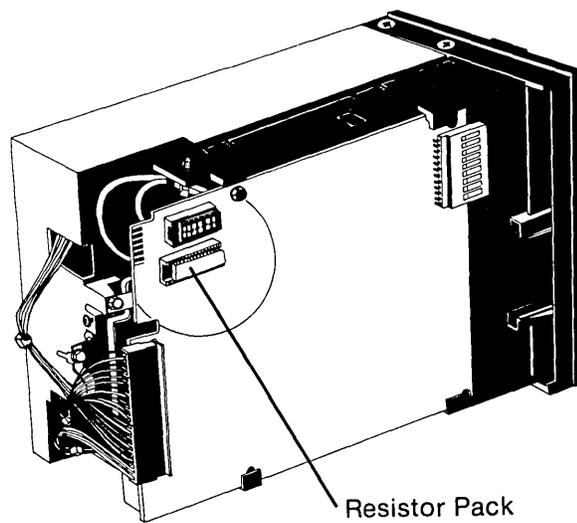

Figure 11-21. Resistor Pack.
10. Unplug and remove the resistor pack located on the floppy disk drive PCB (see Figure 11-21).